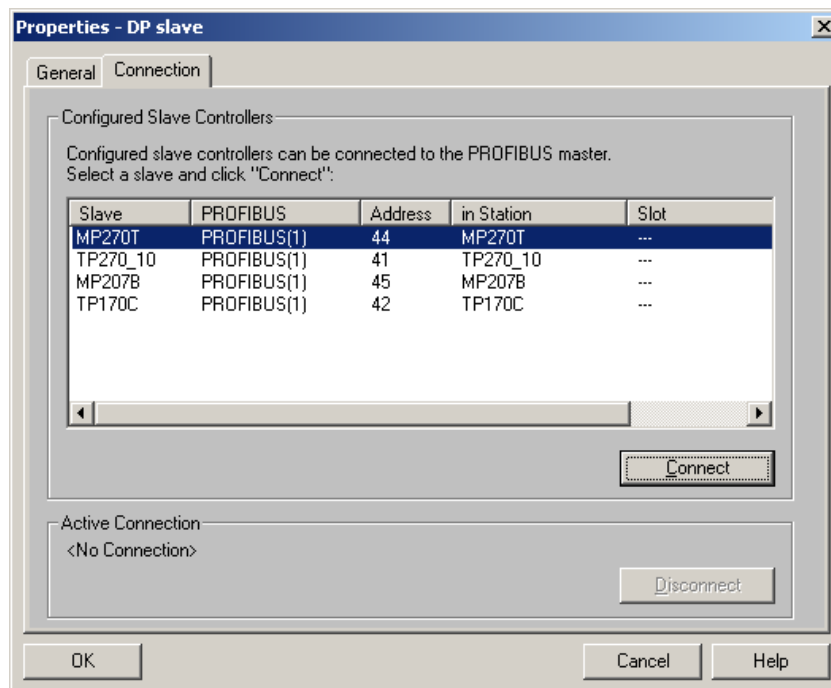

Figure 6-14 Connect slave
5. Use the Drag&Drop method to move the operating unit group to the DP master system. The *Properties - DP-Slave* window provides a list of all operating units which can be configured in this network. Select the relevant operating unit. In the example provided, this is the TP 270-10" with address 41; refer to Figure 6-14.